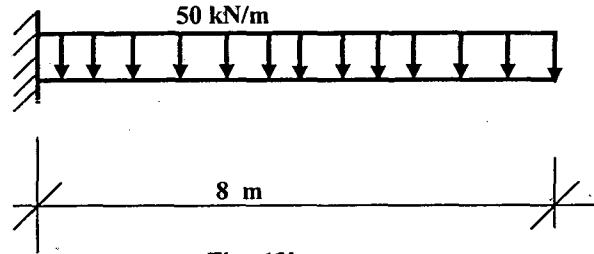

Fig. 13b
- 13 b) For the beam shown in Fig. 13b, compute the displacement at the free end and force and moment reactions at the fixed end using FE approach. Take $E = 200 \text{ GPa}$, $I = 2000 \text{ cm}^4$ (16)